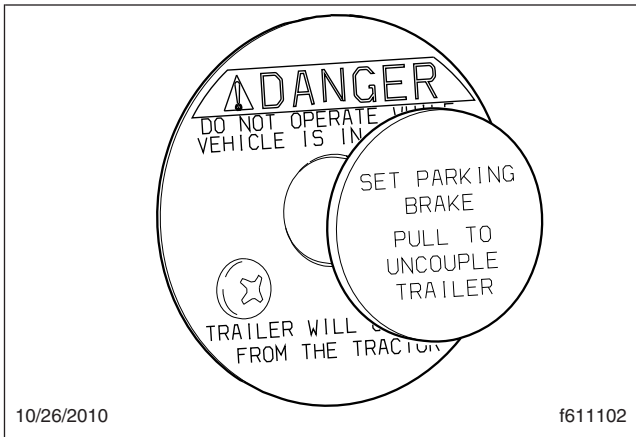

Fig. 17.10, Air-Actuated Kingpin Release Valve
An air-actuated kingpin release valve is optional with all fifth wheels. See Fig. 17.10.
2. Pull and hold the kingpin release valve (**Fig. 17.10**) until the kingpin lock mechanism opens and locks in place.